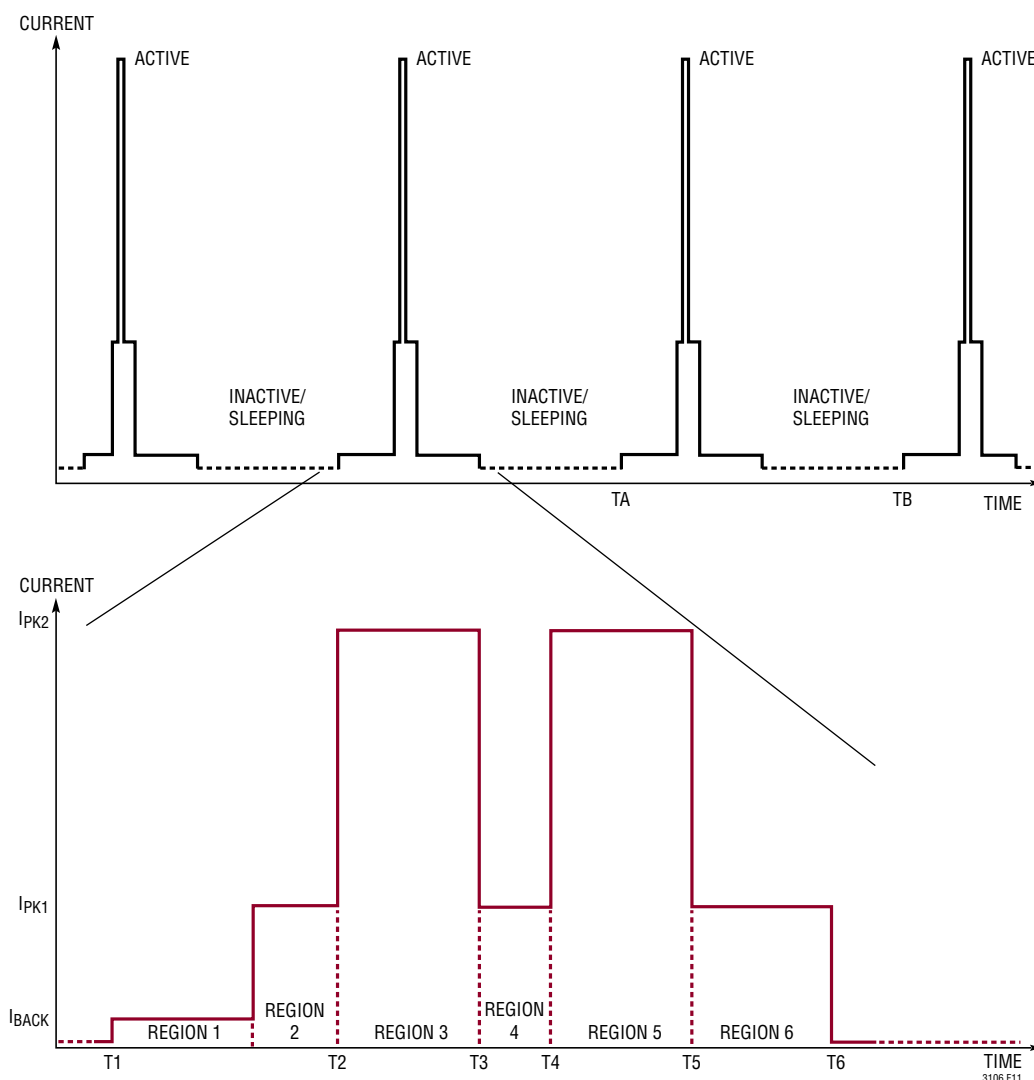

Figure 11. Application Load Profile for Schematic in Figure 8
In this application the load is a low power proprietary RF profile (Figure 11). The regions of operation are described, output and power losses are tabulated and the peak levels for each are given in Table 8. The total average output power needed in this application can be calculated to be 191μW.
**Table 8. Application Load Profile Power Budget for Figure 11**
**Table 10. Application Load Profile Power Budget for Figure 11**